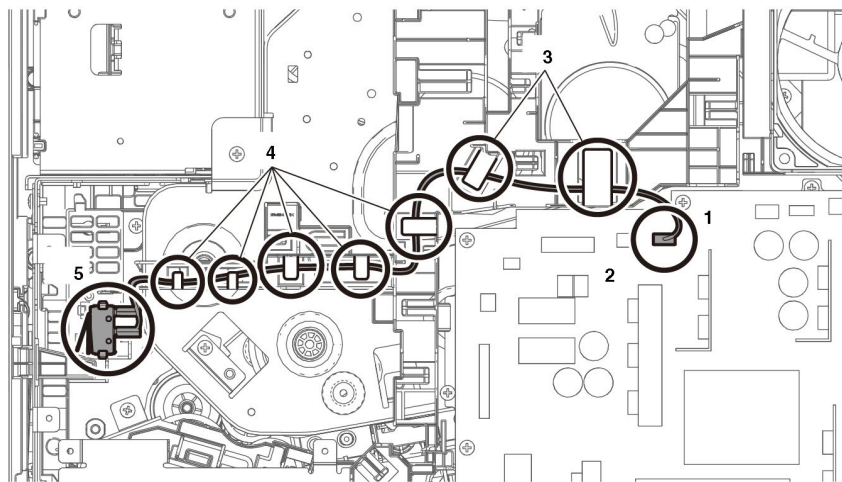

Figure 1 Rear interlock harness
2. Remove the rear I/L harness assembly, Figure 1:
- a. Disconnect connector P/J292 (1) from the LVPS PWB (2), then release the rear I/L harness from the harness guide.
- b. Release the rear I/L harness assembly from the DC harness guide (3) and the rear I/L harness guide (4).
- c. Release the two hooks (5), then remove the rear I/L harness assembly.